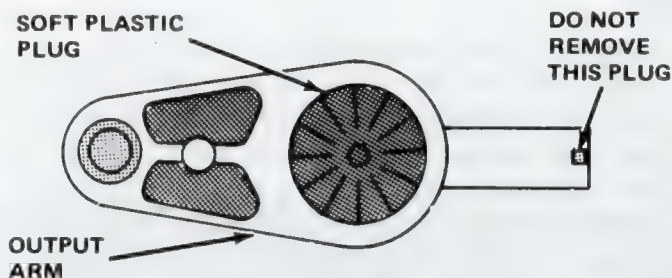

Fig. 3T-12 Output Arm with Plastic Plug Installed
(1) Using a sharp pointed tool, puncture and pry off soft plastic plug from upper surface of arm (fig. 3T-12).